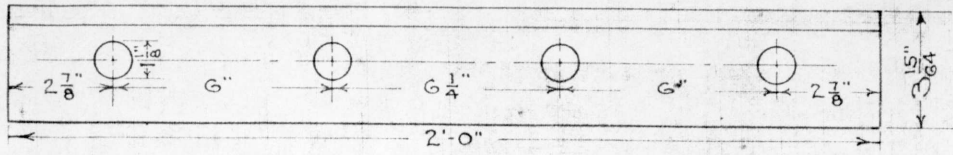

FIG. 1. INSIDE WOOD FILLER. SEE SECTION BELOW
SECTION-FIG. 1.
- (a) USE 167-32-J, FIG. 1. INSTEAD OF 167-32-B, FIG. H.